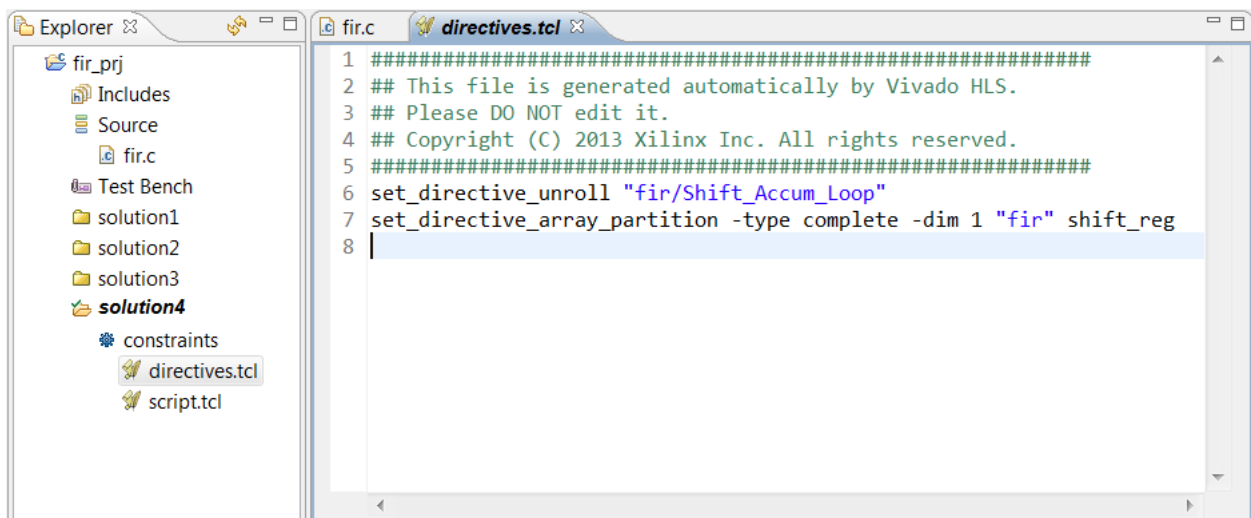

Figure 30: Solution4 Directives.tcl File
10. In the Explorer pane, expand the **Constraint** folder in `Solution4` as shown in **Figure 30**.